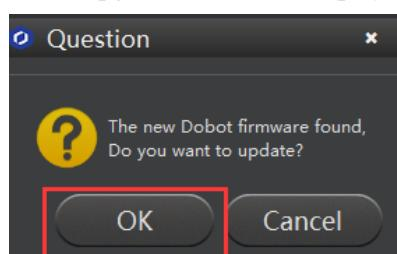

Figure 5.32 Confirm the firmware upgrade
2. Click **OK**, as shown in Figure 5.32.